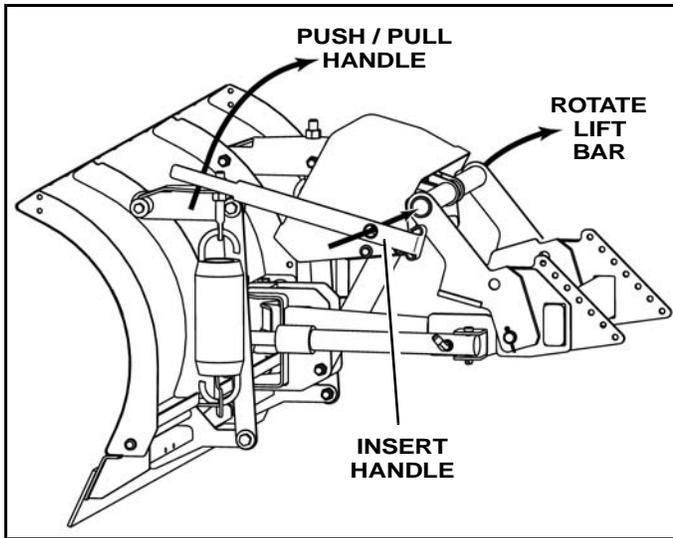

Figure 1-12
4. Insert handle into the lift bar tube and push or pull the handle toward the UTV to rotate lift bar into position. (See Figure 1-12)